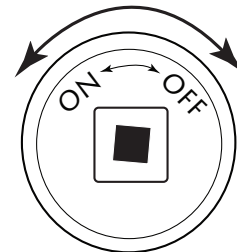

Fig. 6 Key Valve Face
1. Insert key into shut-off valve and secure into square end (see figs 6 & 7).
Low flame	<ol style="list-style-type: none"> <li>1. Ensure the base media is at least 1-inch in diameter and top media is no more than 1-inch over top of burner.</li> <li>2. Ensure all shut-off valves and key valve is fully open. See page 7; Fig. 6</li> <li>3. Check gas pressure.</li> </ol>